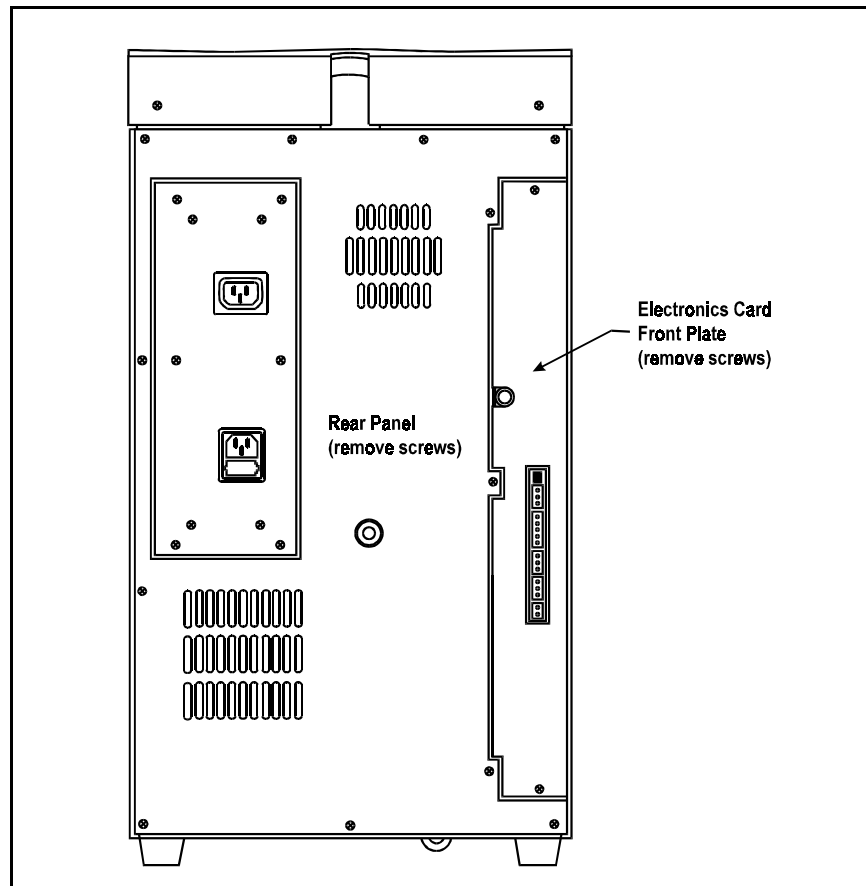

Figure B-22. Removing the Rear Panel
4. Remove the screws from the rear panel and remove the rear panel from the DX-120. Remove the screws from the electronics card front plate (see Figure B-22).